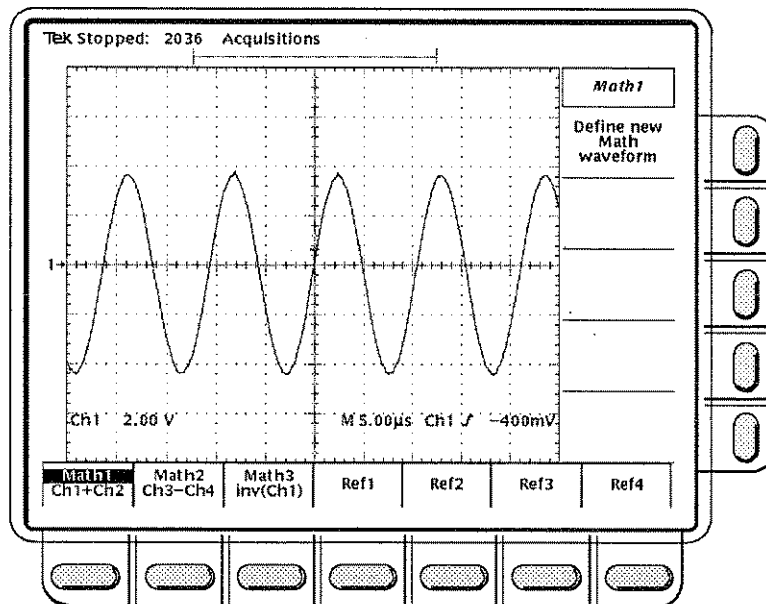

Figure 3-60: More Menu
- Step 1:** Press the **MORE** button to bring up the More menu (Figure 3-60).